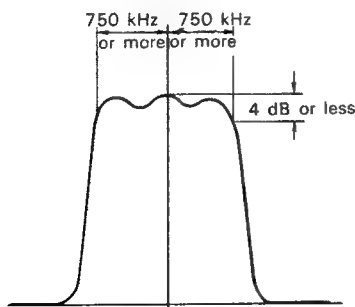

Fig. 42 Output waveform
- 3) Adjust T1 (red), T2 (yellow) and T3 (red) in PD unit until the output waveform becomes as shown in Fig. 42.